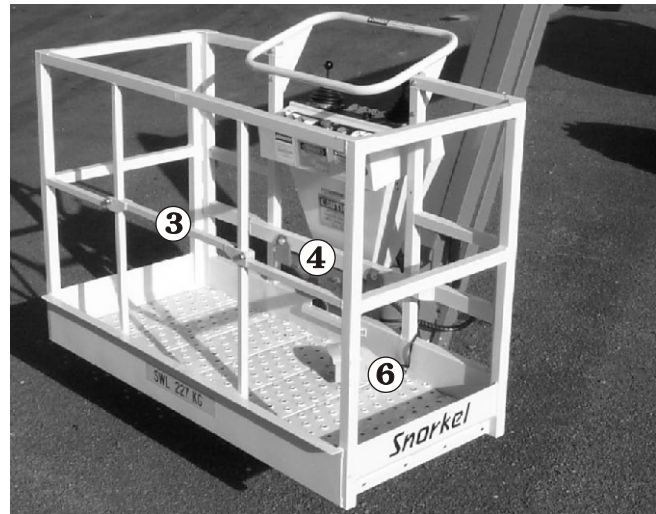

Figure 7.2—Platform
3. Enter the platform and securely close the gate^③ (refer to Figure 7.2).
4. Attach the fall restraint harness to one of the anchor points^④ (refer to Figure 7.2).
7. Step down on the platform foot switch ⁶ (refer to Figure 7.2 and & 7.5).